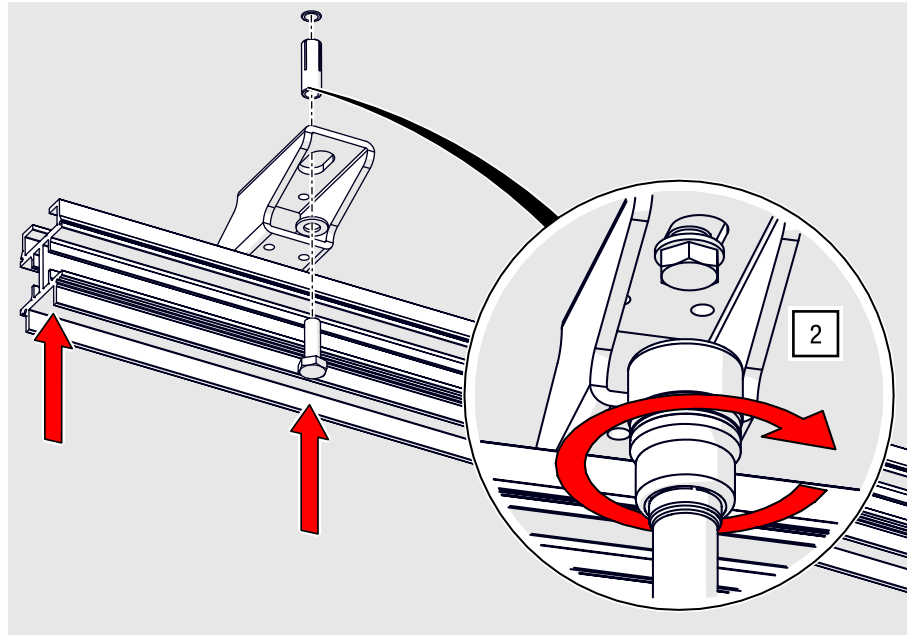

Fig. 50: Ceiling mounting – Mount track to the ceiling
2. Fasten the suspension to the ceiling with mounting material suitable for the substrate in accordance with the manufacturer's instructions (concrete ceiling example; see Fig. 50).